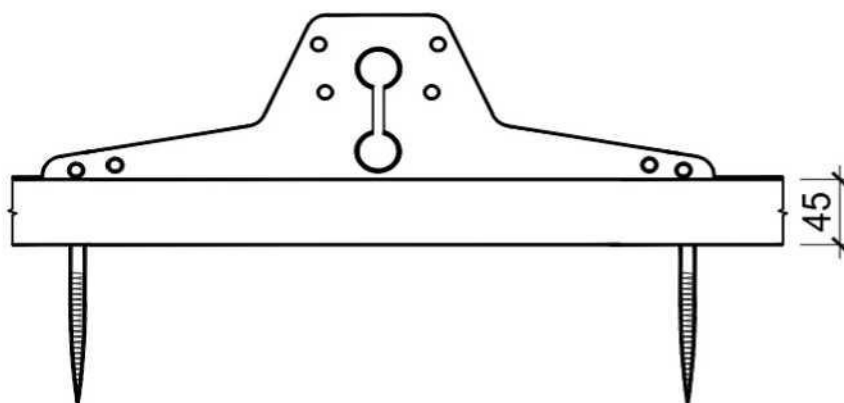

Figure 3.
- Screw the PR-bracket plate to the roof using 2 M8x60 mm screws (Figure 3).